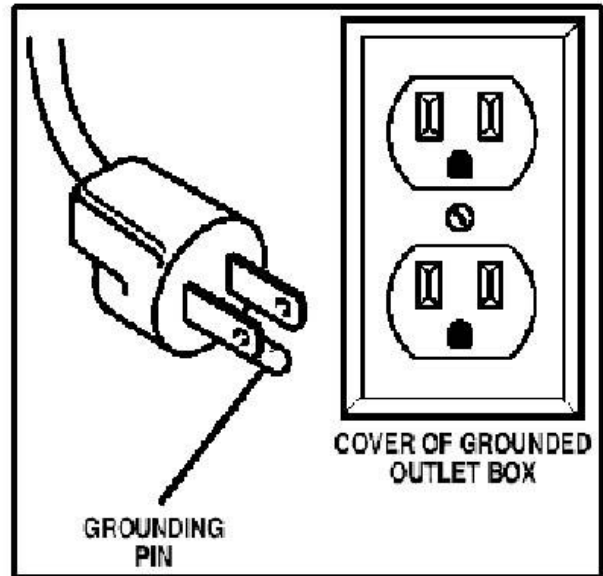

Figure 1
• This cooktop features a pilotless electric ignition for energy savings and reliability. It operates on a 120 volt, 60 Hz power supply. A separate circuit, protected by a 15 amp time delay fuse or circuit breaker, is required. For personal safety, the cooktop must be properly grounded. A properly-grounded 3-prong receptacle (see Figure 1) should be located 12" below the countertop and within reach of the cooktop's four-foot power cord. For maximum safety, the power cord must be plugged into an electrical outlet that is correctly polarized and properly grounded.